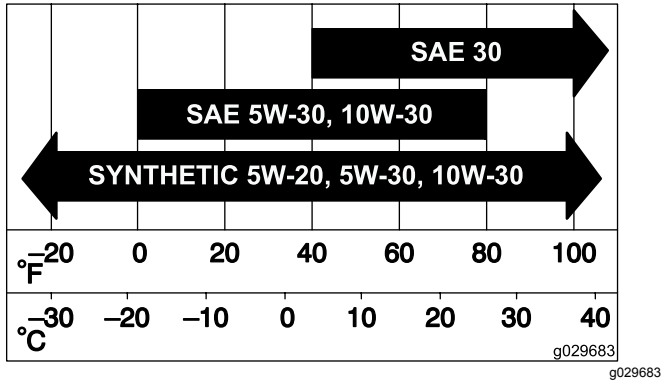

Figure 34
3. Release the latches on the air cleaner and pull the air-cleaner cover off the air-cleaner body (Figure 34).
5. Gently slide the filter out of the air-cleaner body (Figure 34).
2. Carefully slide the filter into the air-cleaner body (Figure 34).
3. Install the air-cleaner cover and secure the latches (Figure 34).